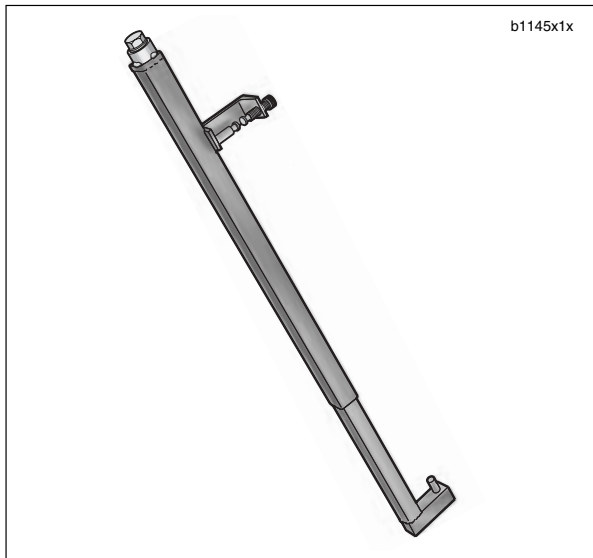

Figure 2-69. Fork Spring Compressing Tool (HD-45966)
6. See Figure 2-69. Move the fork assembly from the holding tool and compress fork in the FORK SPRING COMPRESSION TOOL.
8. Remove preload washer (4) and slider piston (5).
9. See Figure 2-69. Expand fork and remove from FORK SPRING COMPRESSION TOOL.